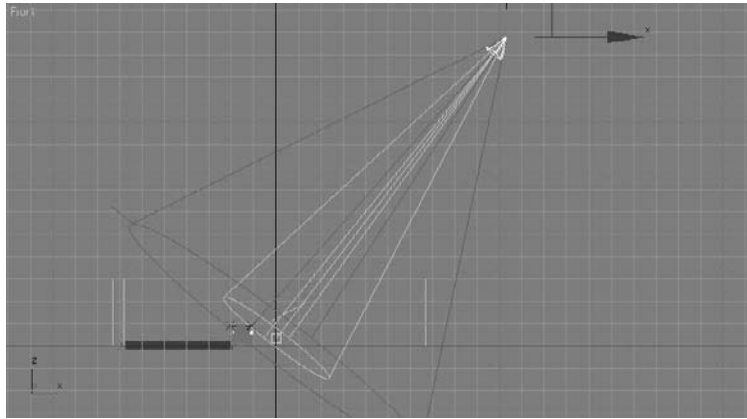

Figure 10.56
3. Move to the Front viewport, select the light, and move it up as shown in Figure 10.56. If your front view is not visible, simply select one of the viewports and press F for the Front viewport.